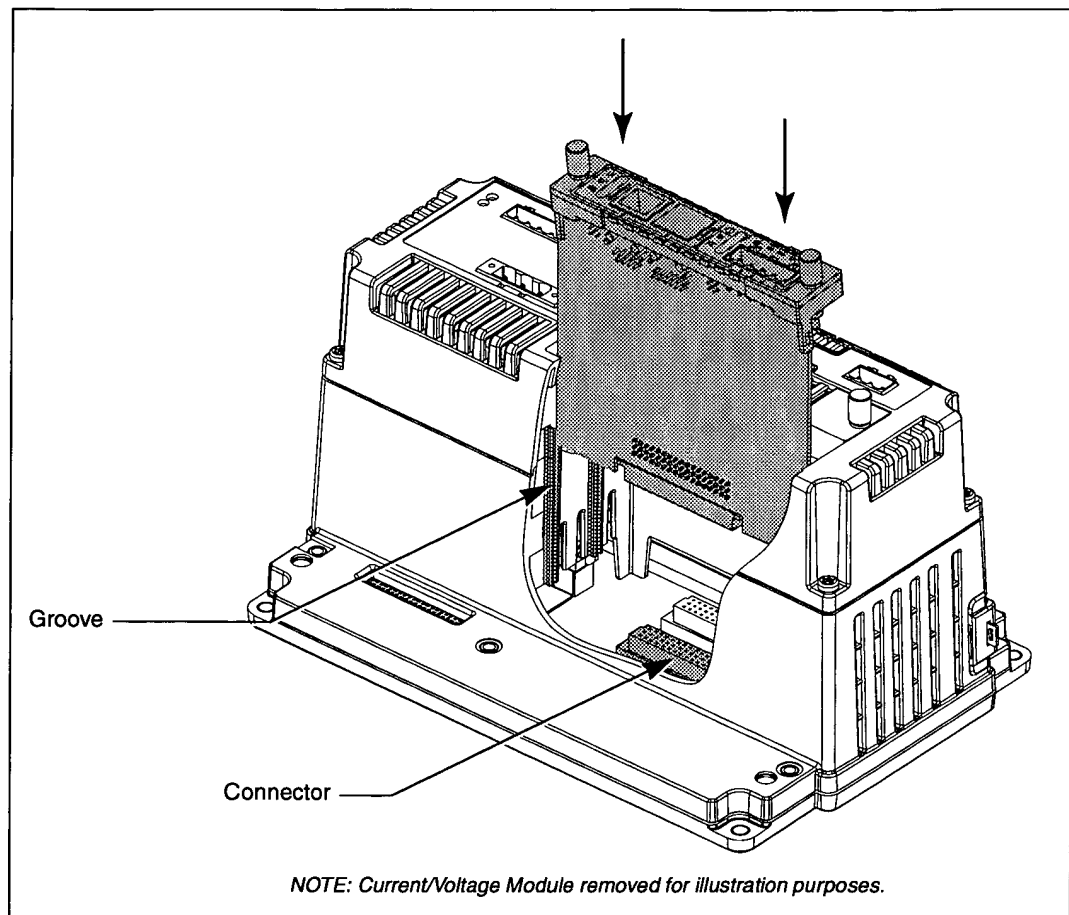

Figure 4-4 Installing the ECC into the circuit monitor
4. Orient the ECC and align with the grooves inside slot A as shown in Figure 4-4.